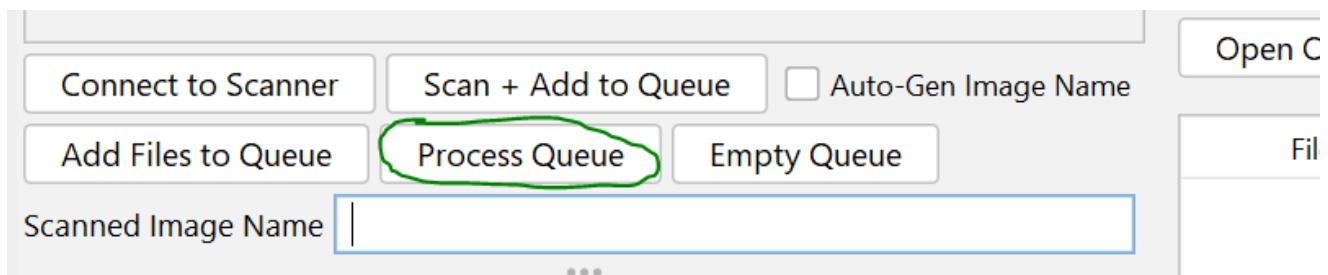

Fig 6: Flour scan software – user interface with “Process Queue” button circled.
- 7) After all the flour samples have been scanned, the images are evaluated. The "Que" shows all the images files to process. Click "Process Queue" button to get the result [Fig. 6]